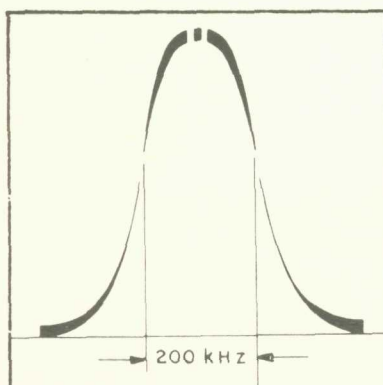

FIGURE 2.
- Align the top and bottom cores of Z2, Z3 and core of L3 for maximum amplitude and symmetry—see Figure 2. Repeat alignment.